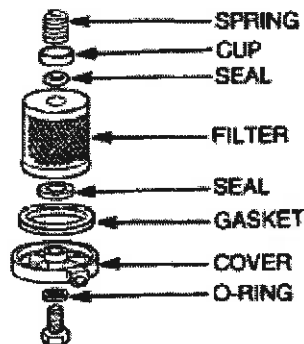

Figure 5 Fuel Filter - Removal
- b. Remove the bolt securing the fuel filter cover to the fuel tank (Figure 5).
- e. Install the new element (Figure 5).